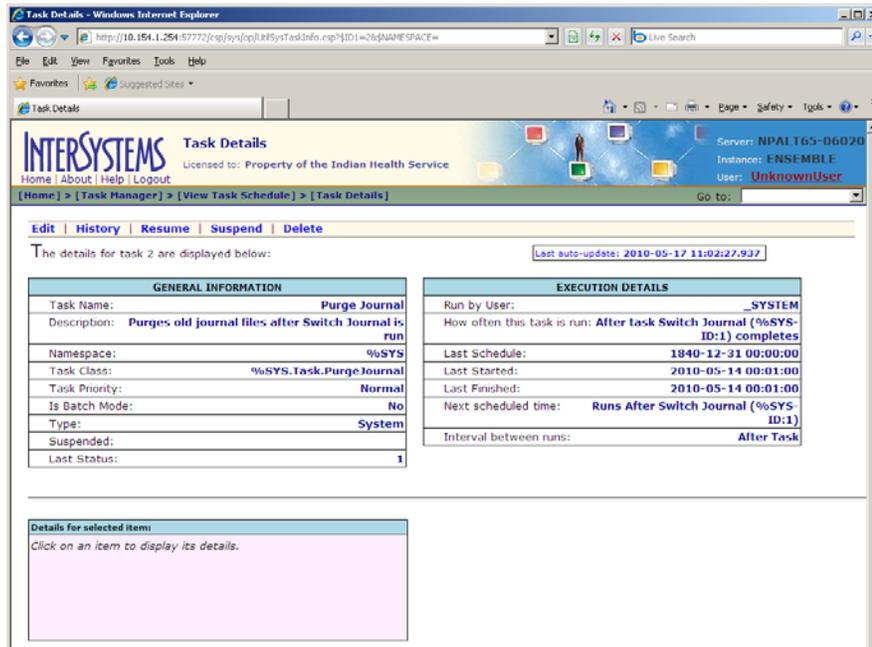

Figure C-10: Task Details page for Purge Journal
- Details.** View and edit the details of the task in the **Task Details** page, as shown in Figure C-10.